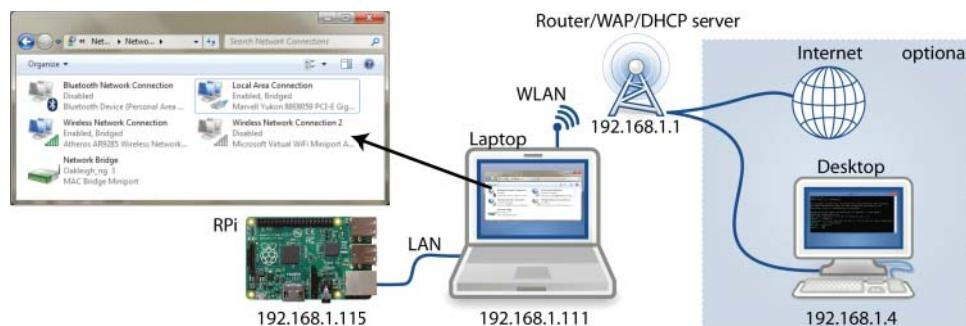

Figure 2-2: An Ethernet crossover cable configuration example
3. Bridge the two network connections. Under Windows, choose Network and Internet ▾ Network Connections. Select the two network adapters (wired and wireless) at the same time, right-click, and choose Bridge Connections. After some time, the two connections should appear with the status Enabled, Bridged, and a network bridge should appear, as illustrated in Figure 2-2.
You can then communicate with the RPi directly from anywhere on your network (including the laptop itself) using the steps described in the next section. Figure 2-2 provides a configuration example subsequent to the steps in the following section taking place. As illustrated in the figure, the DHCP server allocates the laptop the IP address 192.168.1.111 and the RPi the IP address 192.168.1.115. Therefore, an SSH session from the desktop machine at IP address 192.168.1.4 to the RPi provides the following interaction: